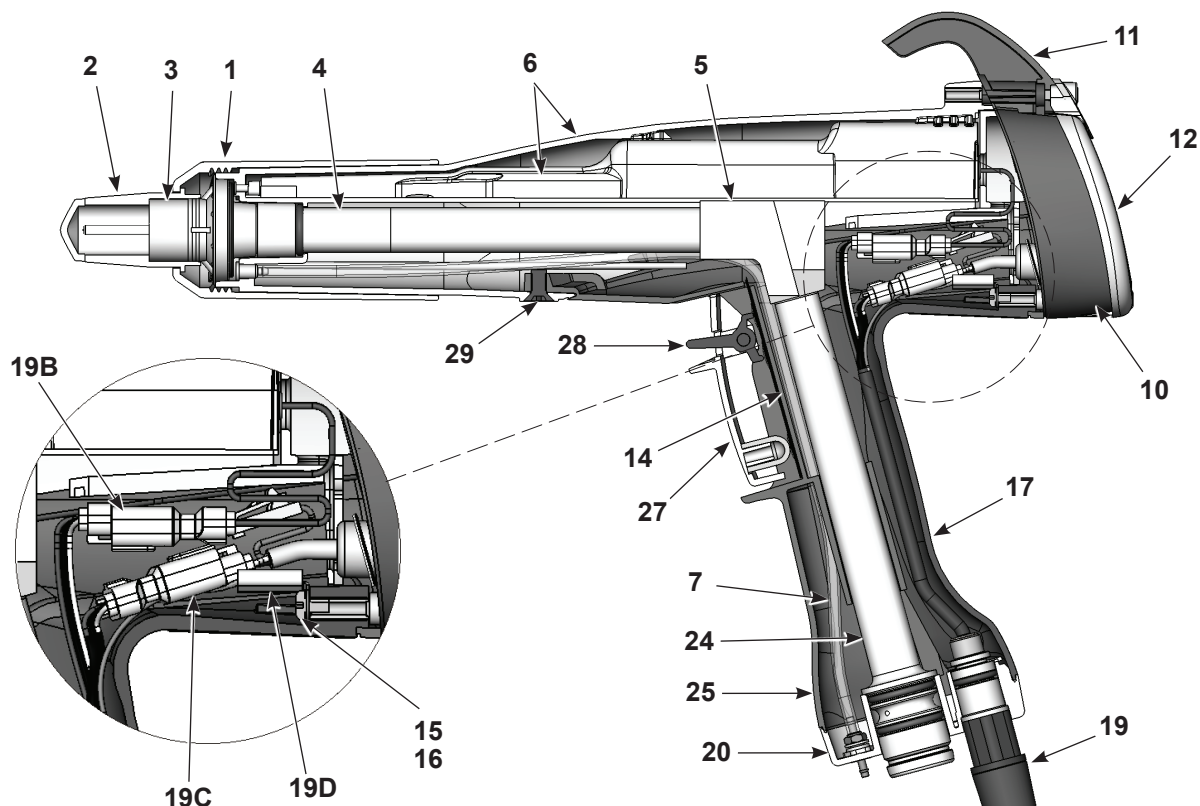
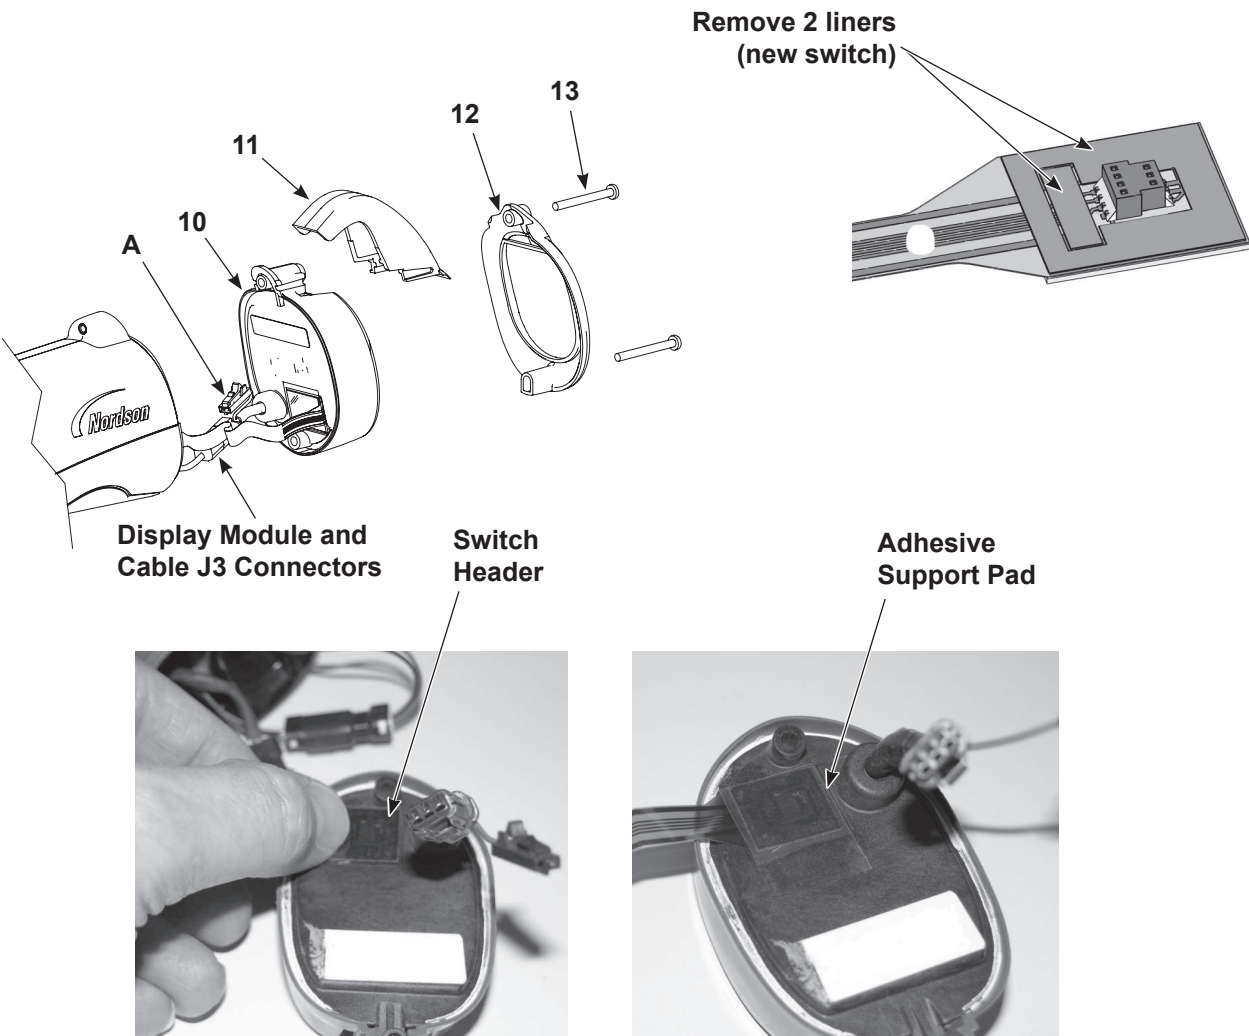

Figure 10 Section View of Spray Gun (item numbers in this section match item numbers in parts list)
Figure 11 Display Module Replacement
1. See Figure 10 and Figure 11. Unscrew the top and bottom screws (13) holding the bezel (12), hook (11) and display module (10) onto the gun body.
1. On the display module (10), carefully clean the trigger switch header mounting surface and surrounding area with isopropyl alcohol. Allow the surface to dry completely before proceeding.
2. If you are installing a new trigger switch, remove the two liners from the connector side of the trigger switch header as shown in Figure 11.
5. Connect the J3 display module and cable connector together. The ground wire connector (A) is not used for this version of the gun.
7. Slide the hook (11) onto the display module, then install the bezel (12).
8. Install and tighten the screws (13).
2. See Figure 10. Unscrew the nozzle nut and remove the nozzle and electrode assembly from the spray gun.
4. See Figure 11. Install the display module as described in Display Module Installation on page 18.
5. Install the electrode assembly (3) into the the end of the outlet tube at the front of the gun body. Make sure the wire electrode is not bent or broken.